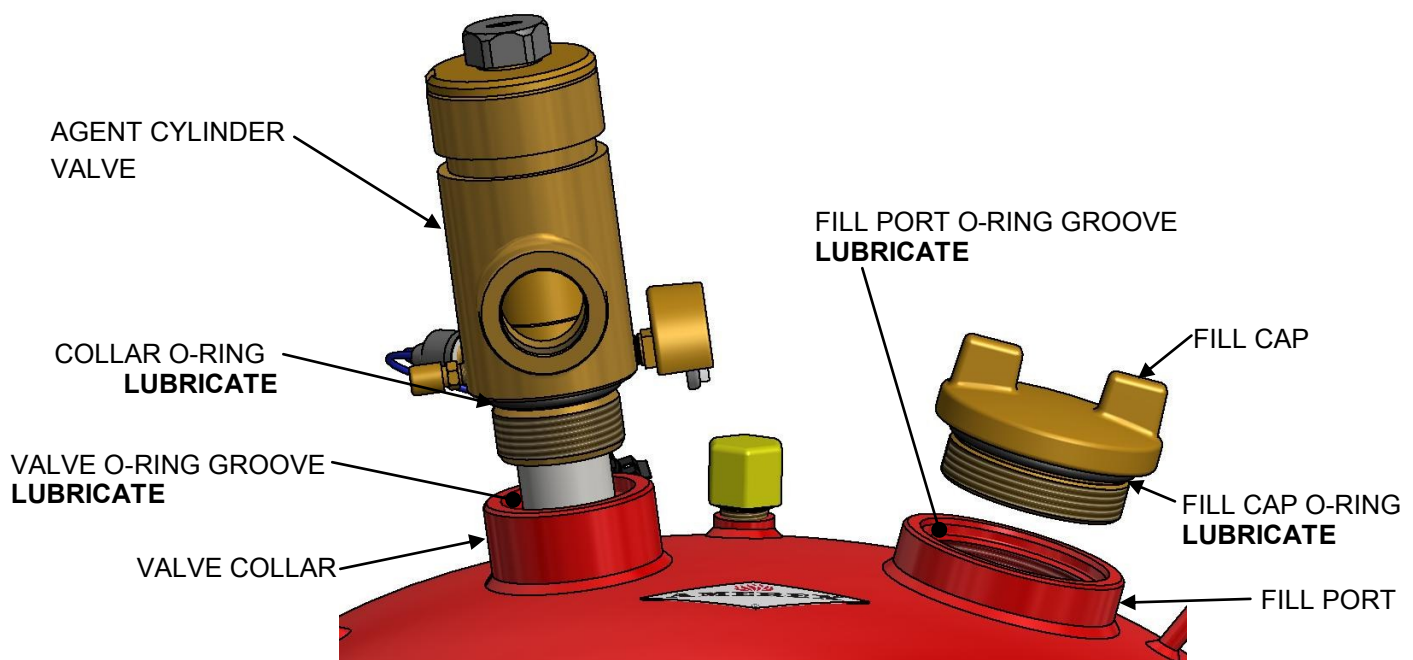

Figure 6.2.6.2
7. Remove the Fill Cap and discard Fill Cap O-Ring (a new one will be supplied with V150/V250 Recharge Kit (P/N 23009) (See Figure 6.2.6.2).
- V150/V250 Agent Cylinders (See Figure 2.1.1.b): Agent Cylinders must have the Agent Cylinder Valve installed prior to refill. Perform step 1 of Section 6.2.6.2 prior to refill. The V150 and V250 Agent Cylinder can be filled through the Fill Port (See Figure 6.2.6.2).
#### **6.2.6.2 Agent Cylinder Valve Installation & Agent Cylinder Charging, V150/V250 Agent Cylinder** (See Figure 6.2.6.2)